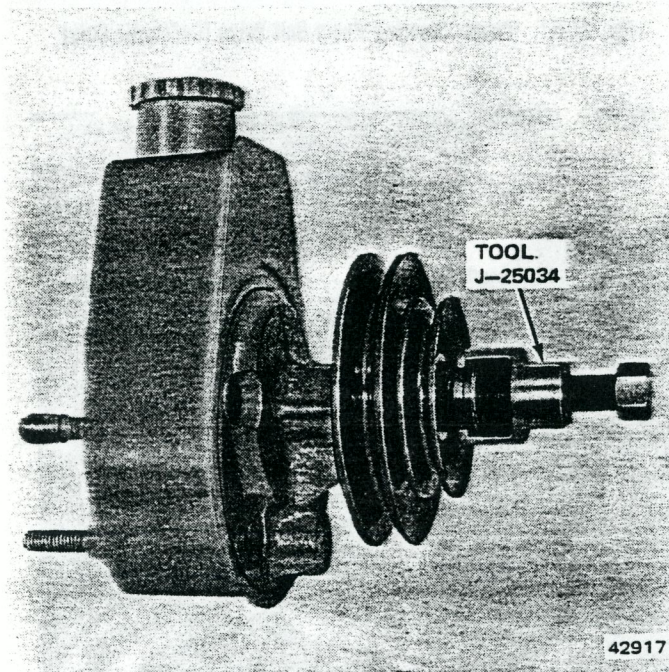

Fig. 2L-47 Pump Pulley Removal
- (1) Loosen pump belt adjusting bolts, push pump toward engine, and remove pump belt.
- (2) Remove pump pulley using tool J-25034 (fig. 2L-47).